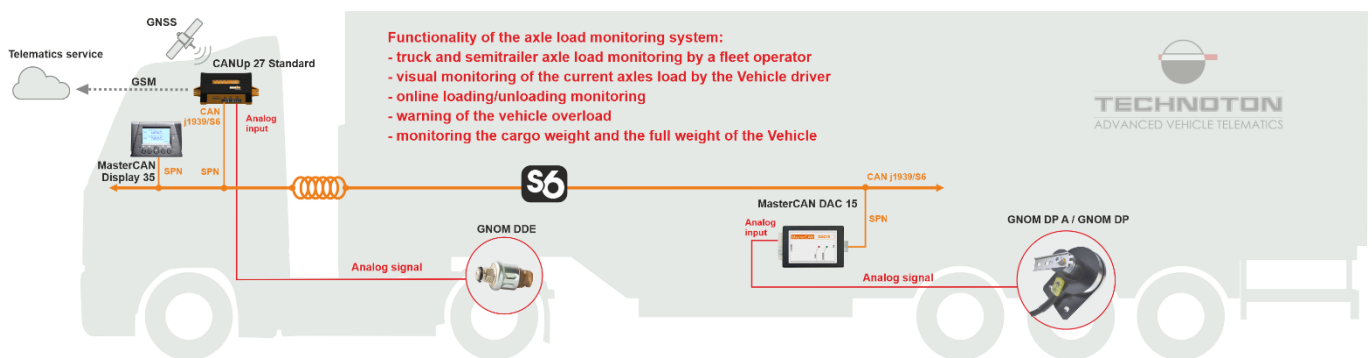

Figure 6 – Example of GNOM sensors application for monitoring axle load of a truck with a replaceable semitrailer
3) To monitor the axles load of a road train with a replaceable semitrailer (see figure 6).